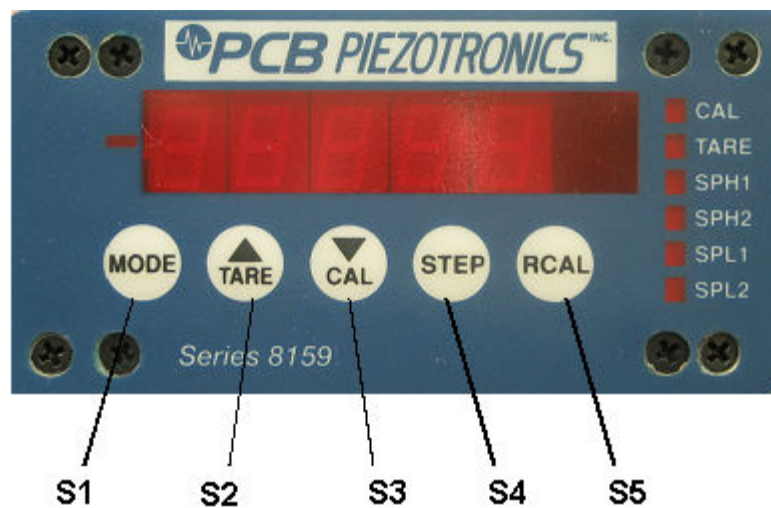

Figure 10 - Front Panel Switches
The Series 8159 can be calibrated using (2) different methods. The first method uses actual or simulated ZERO and FULL SCALE (FS) inputs. Actual inputs may come from a strain gage transducer loaded with calibrated weights. Simulated inputs may come from a strain gage bridge simulator. The second method utilizes an RCAL resistor to simulate a load on a strain gage bridge. The RCAL resistor is activated when the RCAL (S5) switch is depressed. Reference Figure 10 for location of S5.